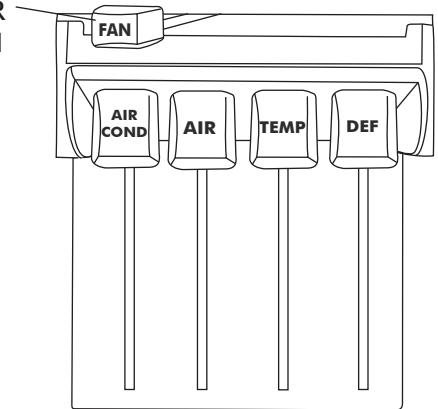

FIGURE 14a
- REMOVE OEM BLOWER SWITCH AS SHOWN IN FIGURE 14a
- RE-INSTALL CONTROL PANEL IN DASH USING THE (4) OEM SCREWS.
- INSTALL KNOB AS SHOWN IN FIGURE 14a.